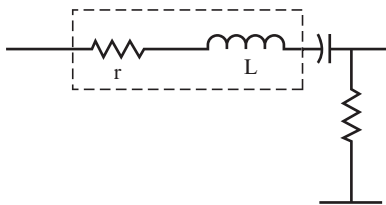

FIGURE 7.29
When you calculate Q for a circuit containing a capacitor and inductor in series (such as that shown in Figure 7.29), use the total DC resistance—the sum of the DC resistance (r) of the inductor and the value of the resistor (R)—to calculate Q .